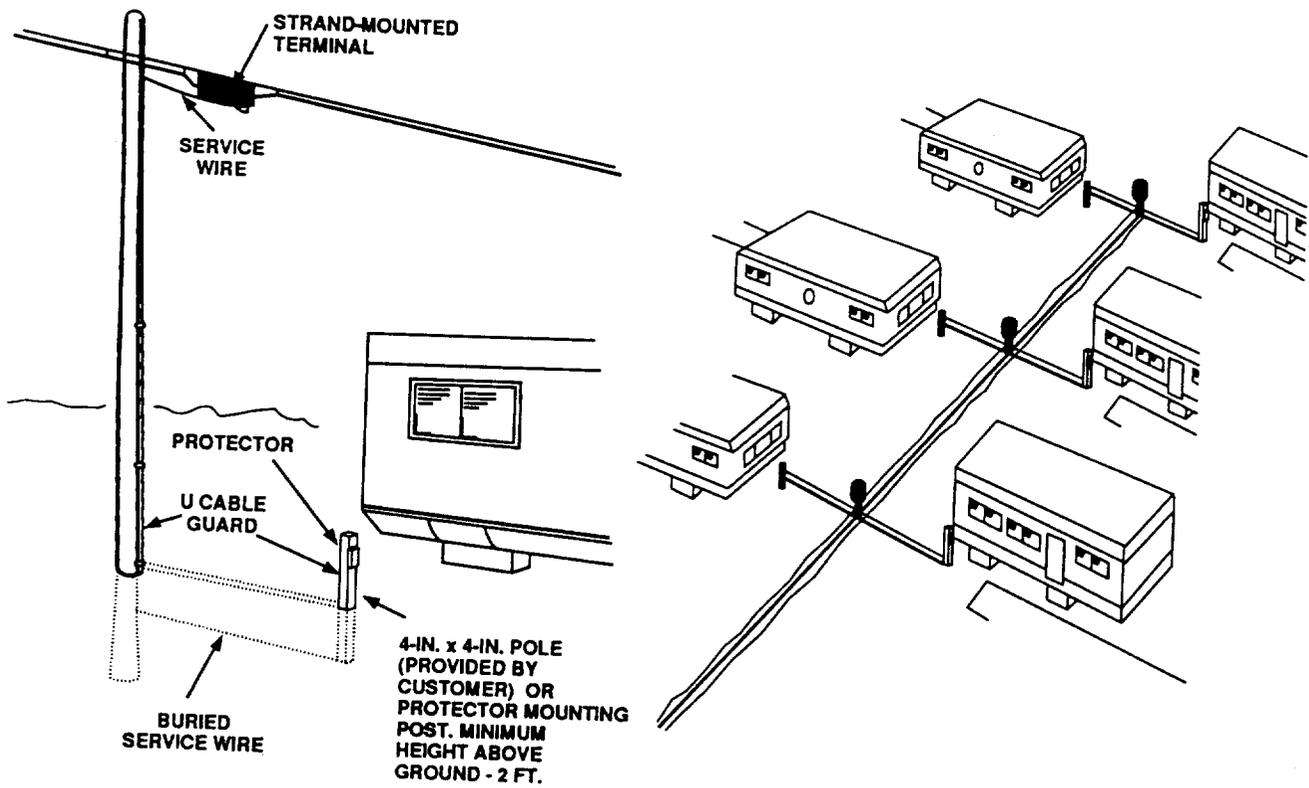

Figure 1. Examples of Buried Service Distribution
1.05 Prior to installing telephone service to a mobile home, a preliminary survey must be performed to verify the safety of the work site, and to determine where the telephone protector is to be located and how it will be grounded and bonded. Figures 1 and 2 illustrate examples of telephone distribution to mobile homes.